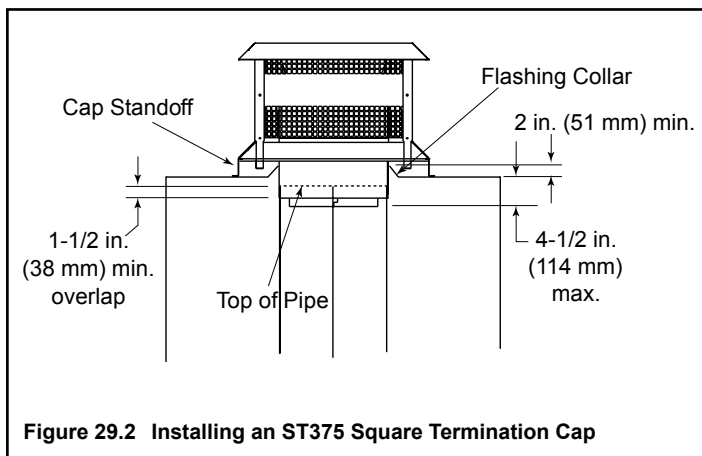

Figure 29.2 Installing an ST375 Square Termination Cap
- For installations utilizing an ST375 Square Termination Cap the last chimney section must not be more than 4-1/2 in. (114 mm) below the chase top. See Figure 29.2.